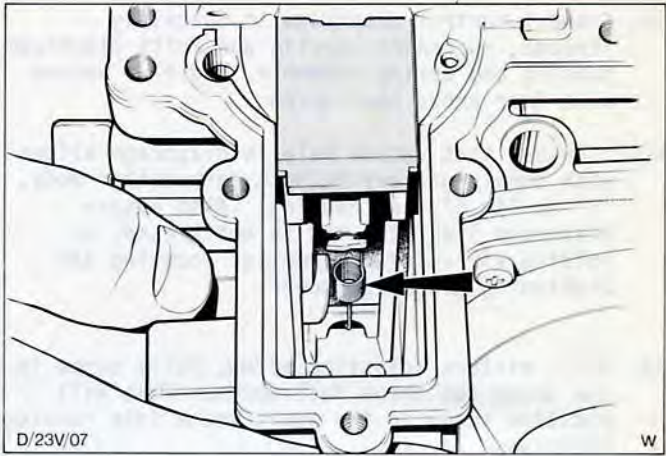

Fig.60. Metering rod bias spring fitted to air valve.
6. Unclip metering rod bias spring, Fig.60.
9. Clip metering rod bias spring into position as shown in Fig.60.